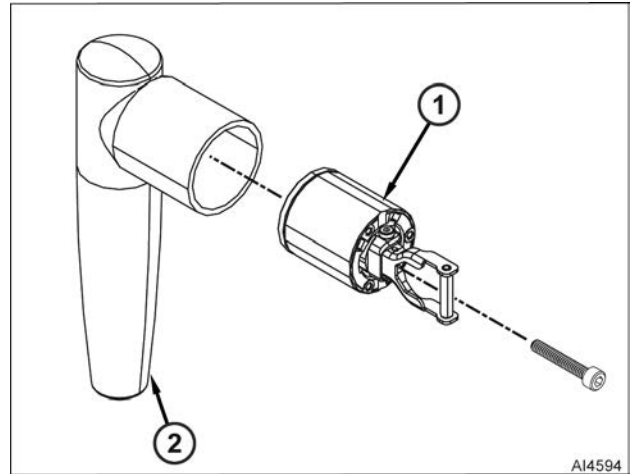

Fig. 44
5. Remove screw and latch mechanism (1, Fig. 44) from door handle (2, Fig. 44).